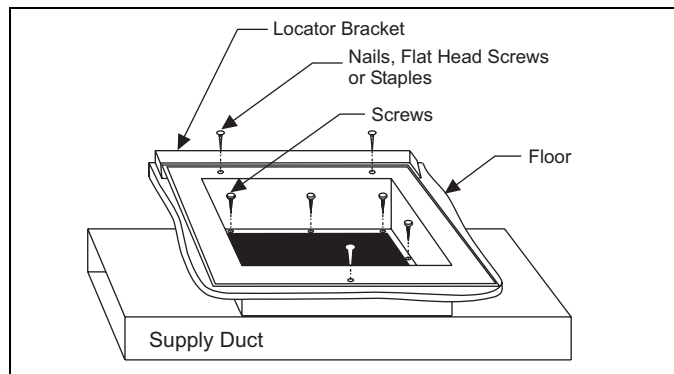

FIGURE 10: Duct Connector Screw Attachment
3. Place locating bracket (supplied with the duct connector) to the back edge of the floor opening. See Figure 10.